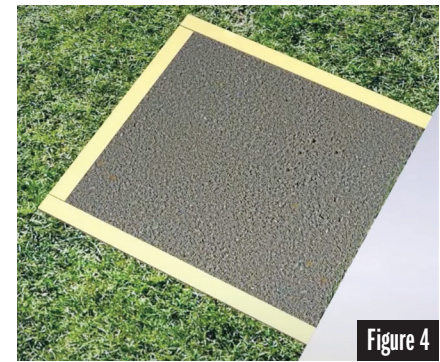

Figure 4
**STEP 5:** Continue filling hole with concrete until nearly full. Replace the frame and fill with cement until it is level with the playing surface. See Figure 4.